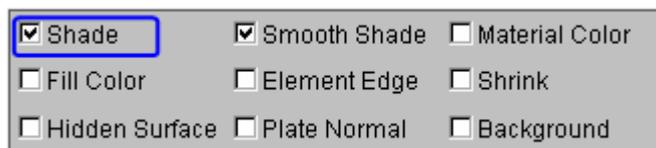

Figure 4.35 Display options
2. Toggle on the **Shade** checkbox in the display options illustrated in Figure 4.35. The **Smooth Shade** option is also toggled on by default to enable smooth and continuous model display.